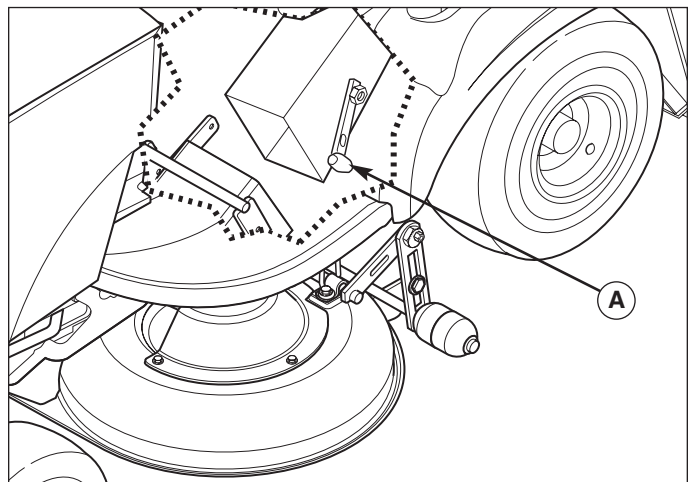

Figure 12. Discharge Tube
7. Push the mower forward and disconnect the intermediate tube rubber strap (A, Figure 12). Remove the tube.
3. See Figure 12. Slide the intermediate tube into the main discharge tube. Connect the intermediate tube to the mower deck and secure with the rubber strap (A).